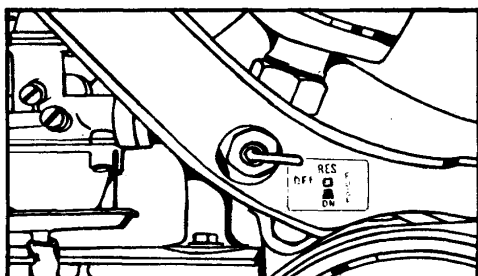

Fig. 6
- e) Fuel cock lever (Fig. 6,)
Open the fuel cock (Fig6) push in the choke pin (Fig.7) as far as it will go the pin returns immediately into its original position but the air intake remains throttled – the engine is supplied with a richer mixture. Two methods can be used for starting the engine.
If you have to slow down, release the twist grip and apply the brakes by pulling the brake levers (2.3 -Fig.2). Proceed in the same way to stop the moped. The reduction of engine speed results in the disengagement of the driving clutch, and the engine runs at idling speed. To continue the ride, just accelerate (turn the twist grip). The driving clutch engages and the moped starts moving. At the end of the trip stop the engine by depressing kill switch push button and shut off the fuel supply by turning the lever of the fuel cock (Fig. 6)